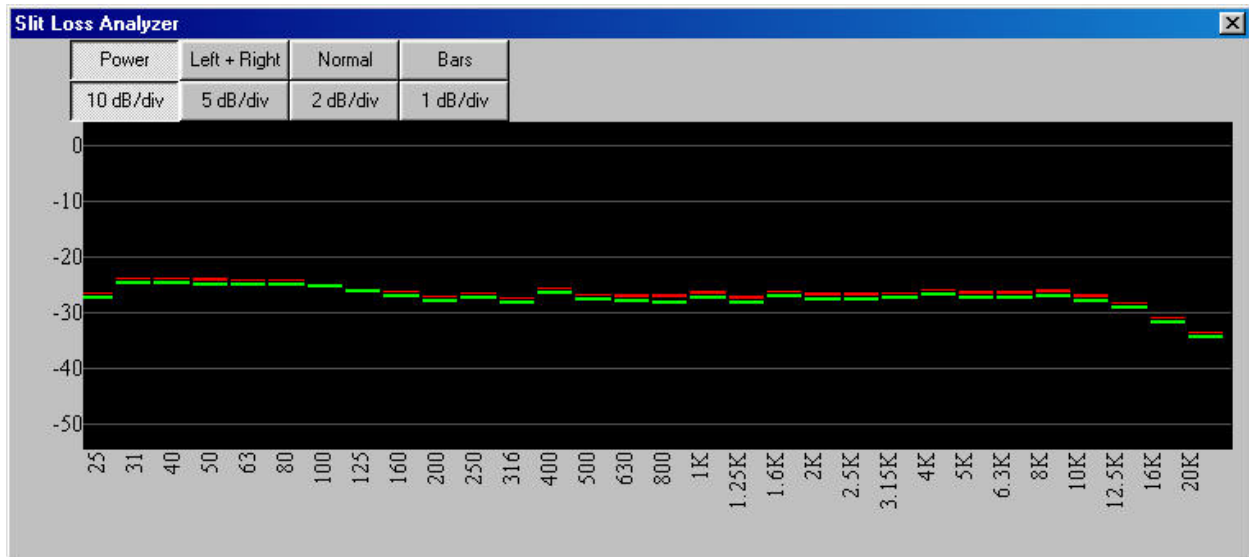

Figure 3-7. Slit Loss Analyzer, enlarged view (bar graph) showing relatively flat pattern.
8. **Move the Slit EQ slider** to adjust the equalizer until a response similar to that shown above (Figure 3-7) is obtained – that is, the graph is relatively “flat” from left to right, without significant upward or downward sloping on the right-hand end of the graph.